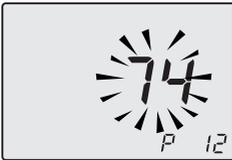

Fig. 7.47
- Scroll the various parameters using keys 17 or 18 until the letters **P12** are displayed on the LCD display and the value of the parameter (74=Inovia 25C ERP, 78=Inovia 30C ERP or 84=Inovia 35C ERP), indicating that "parameter 12" (Fig. 7.47) has been activated.